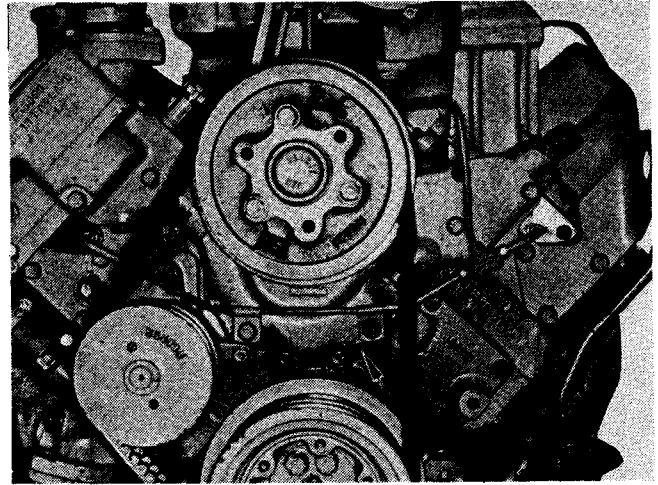

Fig. 1-15, (V10821). Coolant drain point (front water crossover)
3. To completely drain V-378, V-504, V-555 and V-903 cylinder blocks and cylinder heads, open petcock or remove drain plug on water header plate and on lubricating oil cooler (1, Fig's. 1-13 and 1-14) when used. If an air compressor, heat exchanger or other "water-cooled" accessory is used, open petcock and drain. Fig. 1-15. Failure to drain any of these units may cause serious damage in freezing weather.